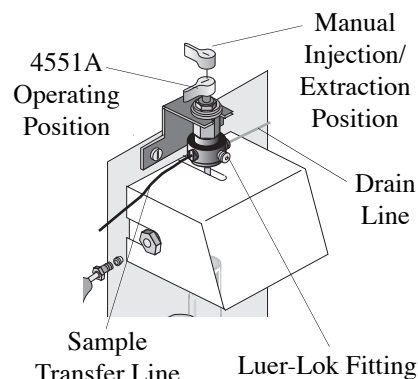

Figure 3.5. Model 4560 Four-Way Valve
7. Place the four-way sample valve (included in the startup kit) on the sample valve bracket with the ports oriented at 3, 6, and 9 o'clock as viewed from the top of the valve, as depicted in Figure 3.5.
- b. Disconnect the other end of the line attached to the sample concentrator's sample valve, depicted in Figure 3.5.